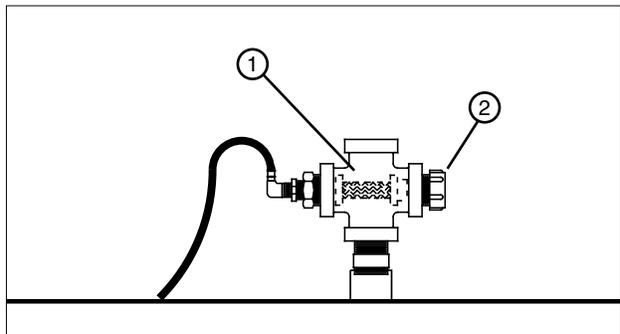

Figure 40-3 1. Cross Filter
- Clean the end gun shut off solenoid valve cross filter or optional dirty water filter. See Figures 40-3 and 40-4. Refer to caution and note below.
- OVER TIGHTENING OF THE 3/4 PIPE PLUG CAN CAUSE SCREEN FILTER DAMAGE NOT ALLOWING WATER TO REACH SOLENOIDS. SEE FIGURE 40-3.
- Tighten 3/4 plastic pipe plug hand tight, then 1/4 turn using pliers. See Figure 40-3.